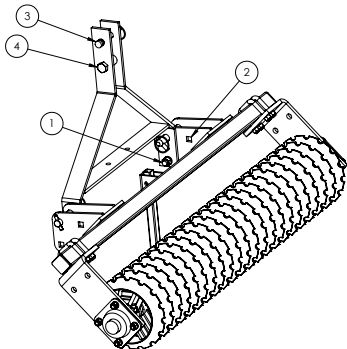

Figure 18.
1. Ensure the parking stand is in place and on level ground. Remove the Carriage Bolts, Lock Washers and Hex Nuts (Figure 18, Ref. 1). Rotate A-Frame to the horizontal position. Reinstall Carriage Bolts, Lock washers and Hex Nuts into upper hole (Ref. 2) on the hitch weldment. Tighten each nut to the torque chart on page 33.